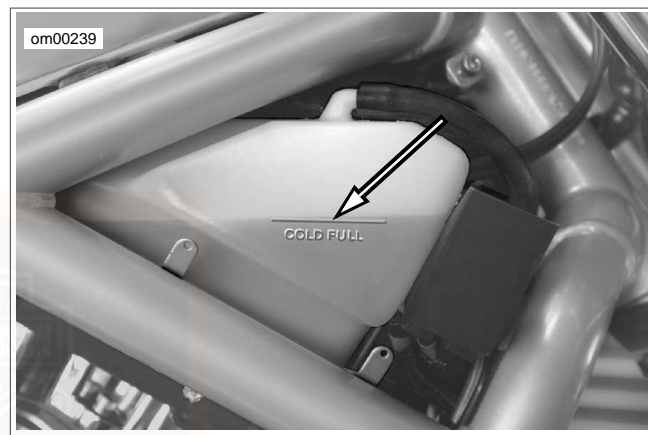

Figure 32. Cold Full Line on Expansion Tank
2. See Figure 32. Check the coolant level in the expansion tank with the coolant cold.